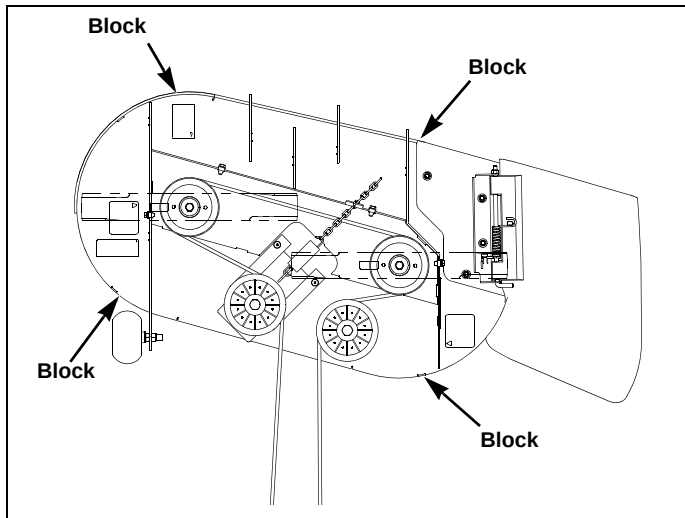
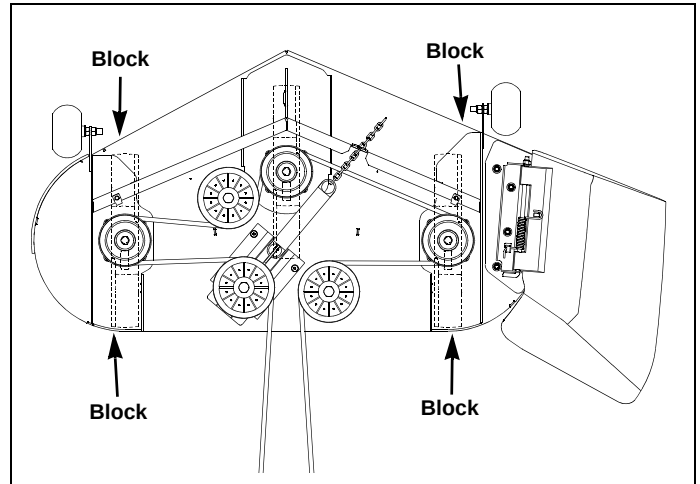
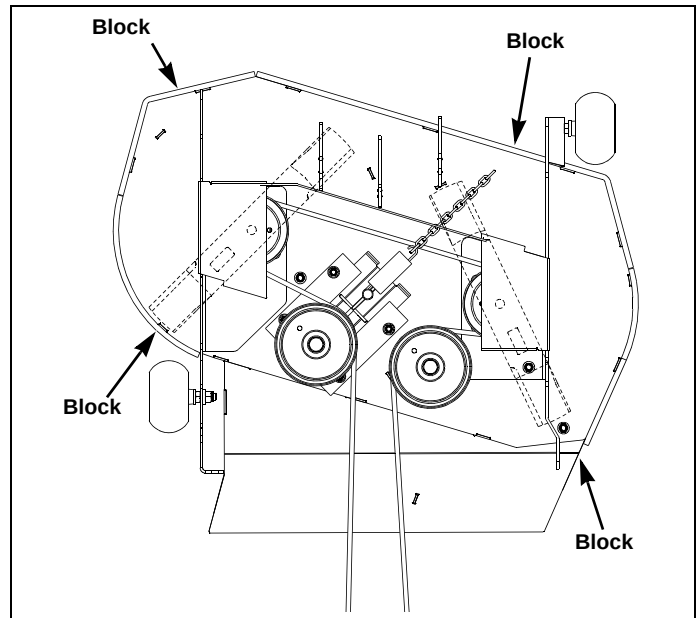

Figure 6-1
Figure 6-2
Figure 6-3
4. Place 3" high deck support blocks (two stacked 2" x 4" blocks can be used to create a 3" high support) at the four corners of the deck as indicated. Figure 6-1, Figure 6-2, & Figure 6-3